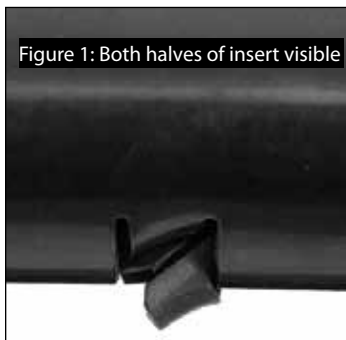
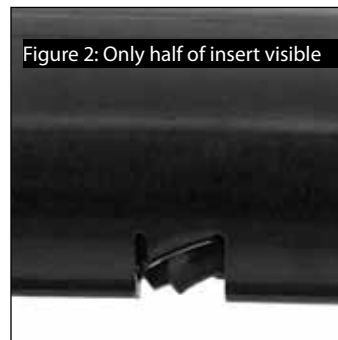

Figure 1: Both halves of insert visible
Figure 2: Only half of insert visible
2. Once you've ensured that all of the plastic sockets are present, it is doubly important that the inserts are properly seated in the frame, otherwise, they may break during installation. Figure 1 shows the insert in the correct position. Note that both the top and bottom of the end of the plastic socket are visible and the wedge shaped clip is positioned against the edge of the slot. Figure 2 shows the insert in the wrong position. Note only the bottom of the insert is visible and the wedge shaped clip is away from the edge of the slot.